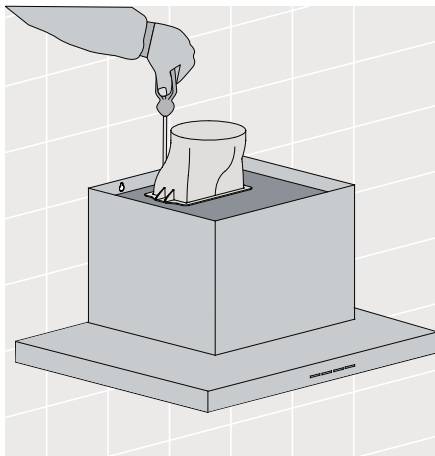

Fig. 8
4. Fix exhaust transition duct using screws supplied (Fig. 8)